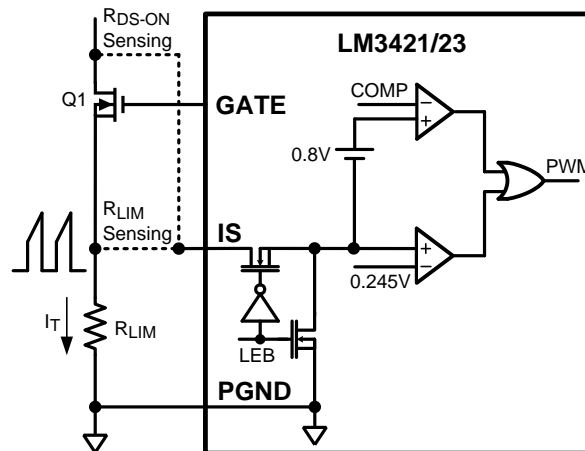

Figure 20. Current Sense / Current Limit Circuitry
The LM3421/23 achieves peak current mode control using a comparator that monitors the main MosFET (Q1) transistor current, comparing it with the COMP pin voltage as shown in Figure 20. Further, it incorporates a cycle-by-cycle over-current protection function. Current limit is accomplished by a redundant internal current sense comparator. If the voltage at the current sense comparator input (IS) exceeds 245 mV (typical), the on cycle is immediately terminated. The IS input pin has an internal N-channel MosFET which pulls it down at the conclusion of every cycle. The discharge device remains on an additional 210 ns (typical) after the beginning of a new cycle to blank the leading edge spike on the current sense signal. The leading edge blanking (LEB) determines the minimum achievable on-time ( $t_{ON-MIN}$ ).